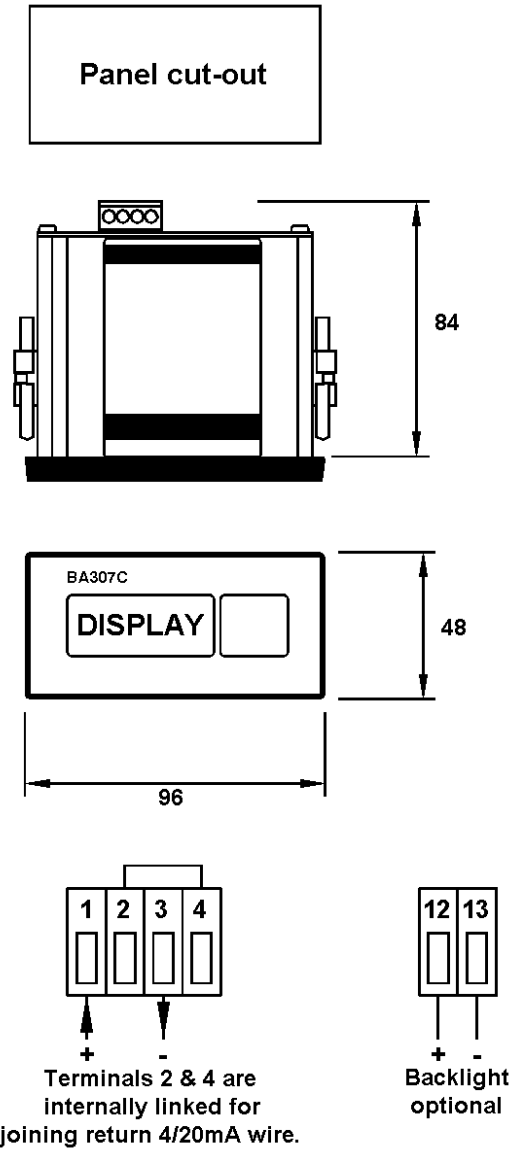

Fig 4A BA307C dimensions
Figs 4A and 4B show the overall dimensions of each instrument and the size of the required panel cut-out. To achieve an IP65 seal between the instrument enclosure and the instrument panel the smaller tolerance aperture should be used and the BA308C must be secured with four mounting clips.
- Connect the panel wiring to the rear terminal block(s) as shown in Figs 4A and 4B. To simplify installation, the terminals are removable so that the panel wiring can be completed before the panel is installed.